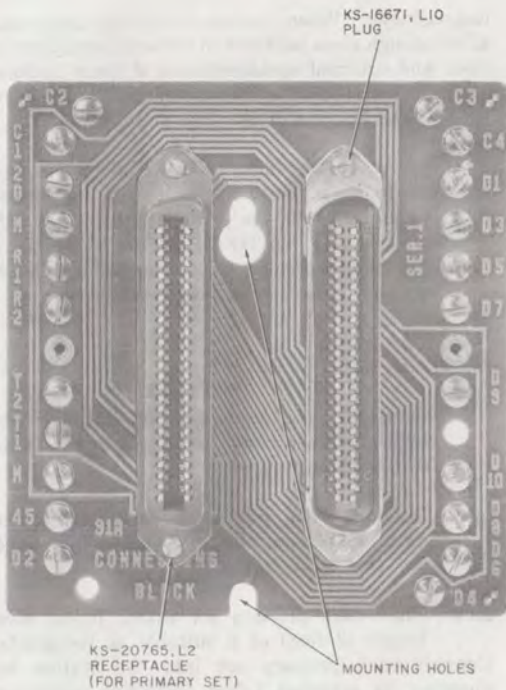

Fig. 11—91A (MD) Connecting Block
3.04 In existing installations, 91A (MD) connecting blocks (Fig. 11) may be used to interface between primary sets and CO/PBX lines; it is permissible to reuse these blocks in other installations.